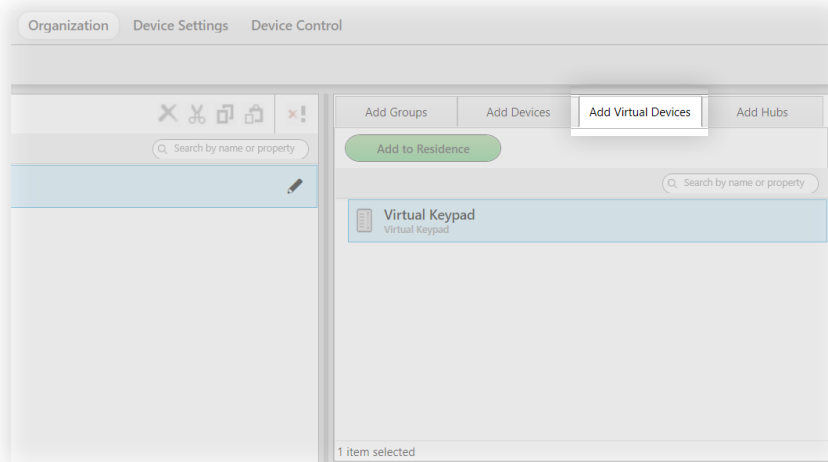

fig. 42
- 1 Go to the **Add Virtual Devices** tab in the top-right pane of the **Organization** tab. (See fig. 42.)